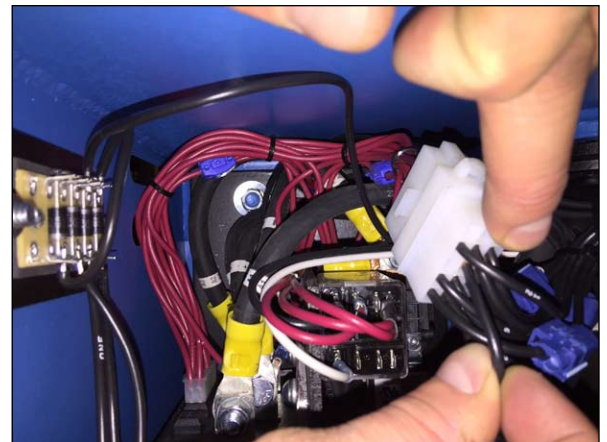

Figure 4.2
4. Connect # 8 wire to the second row, third slot from the left (figure 4.2)